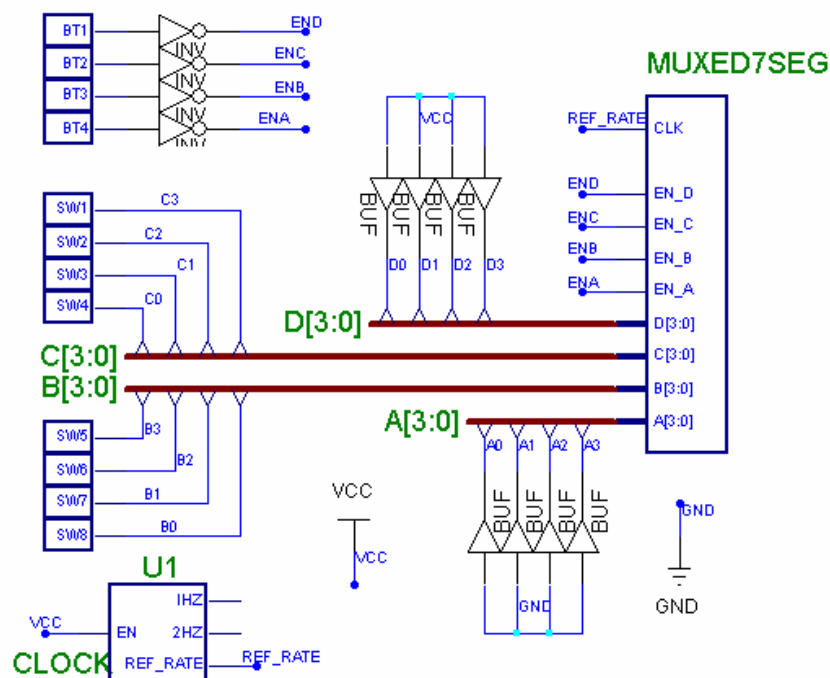

Figure 7.3: Testing Multiplexed Four Seven-Segment Displays Macro.
8. Create a macro of the design. It should look similar to MUXED7SEG macro given in Figure 7.3. The CLK input should provide the macro with the pre-calculated REF_RATE.
9. To test your MUXED7SEG macro, build a schematic similar to Figure 7.3. The least significant display should show zero as its input bus is connected to GND. On the other hand, the most significant display should show F as its input bus is connected to Vcc. The second and third least significant displays should show the value of switches (SW5 to SW8) and (SW1 to SW4) respectively. Buffers are added because you can not give two names to the same line.